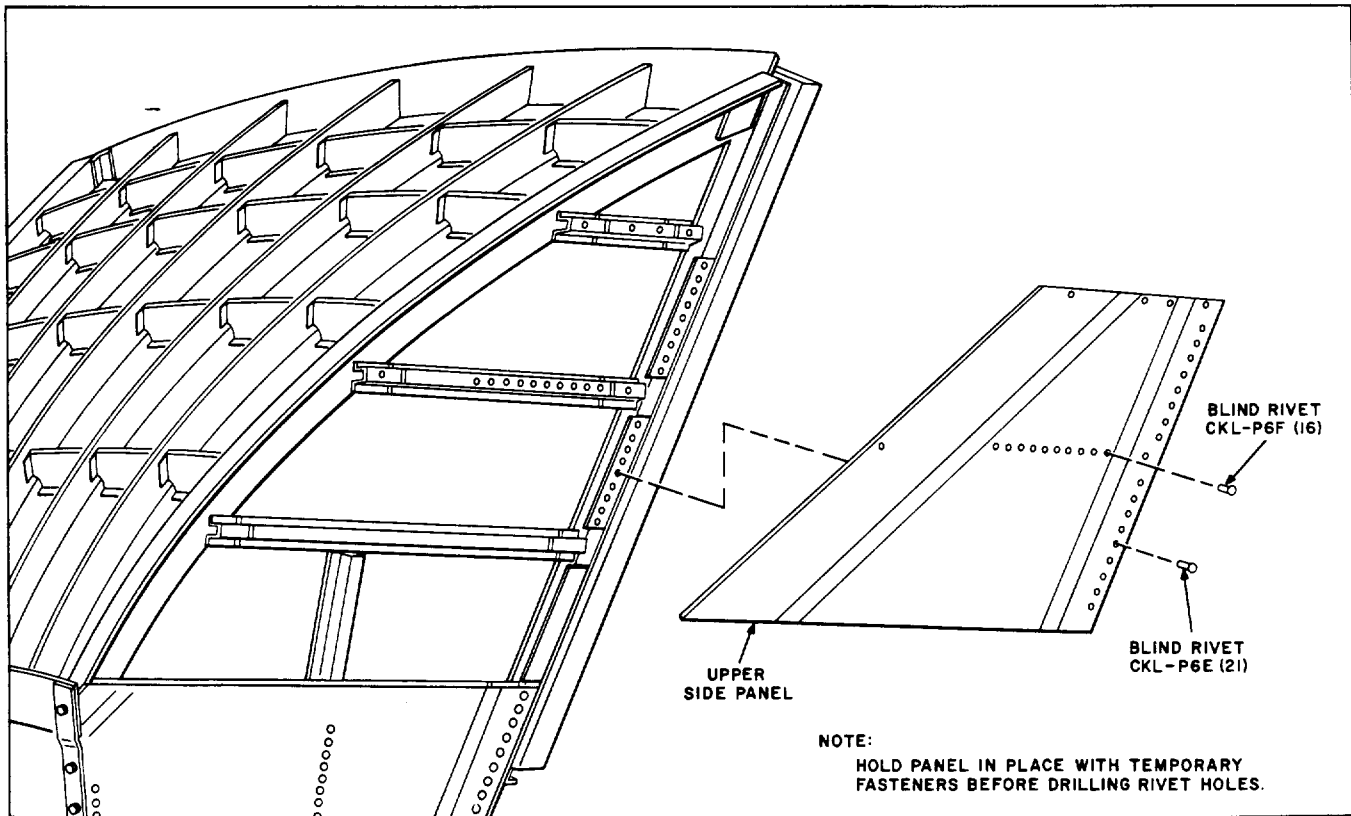

Fig. 7 — Placing Top Sections of Upper Side Panels
5.23 Position the panel on the antenna with the front edge against the rear side of the window mounting angle and the top edge flush with the upper side of the top hat section. Secure the panel to the antenna using temporary fasteners (Fig. 7).